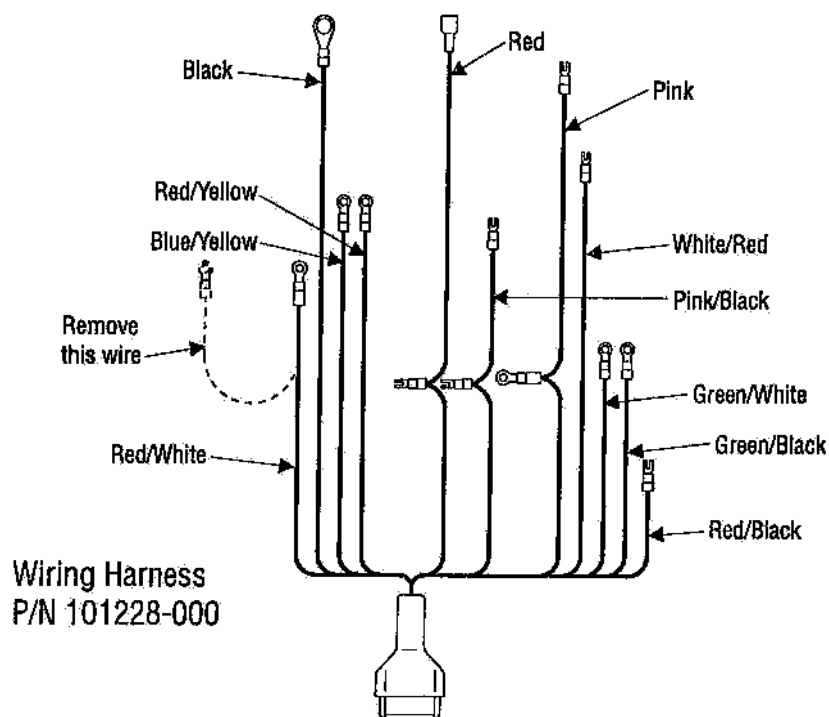

Figure 3
8. Install Wiring Harness (#101228-000) as illustrated in Figure 3 according to the drawing in Figure 1.